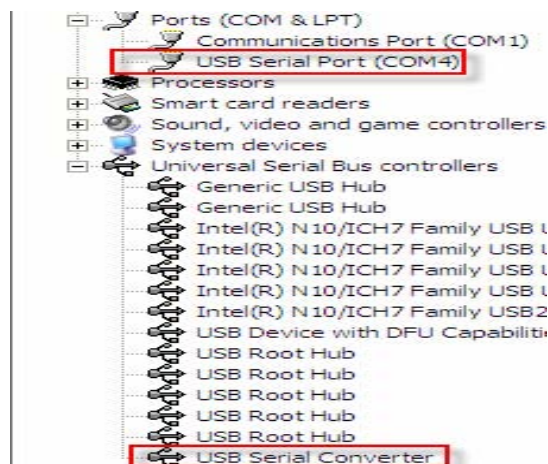

Fig 13. USB Serial Port / Converter
- c. Once installed, should see the following in device manager/properties (Fig 13):